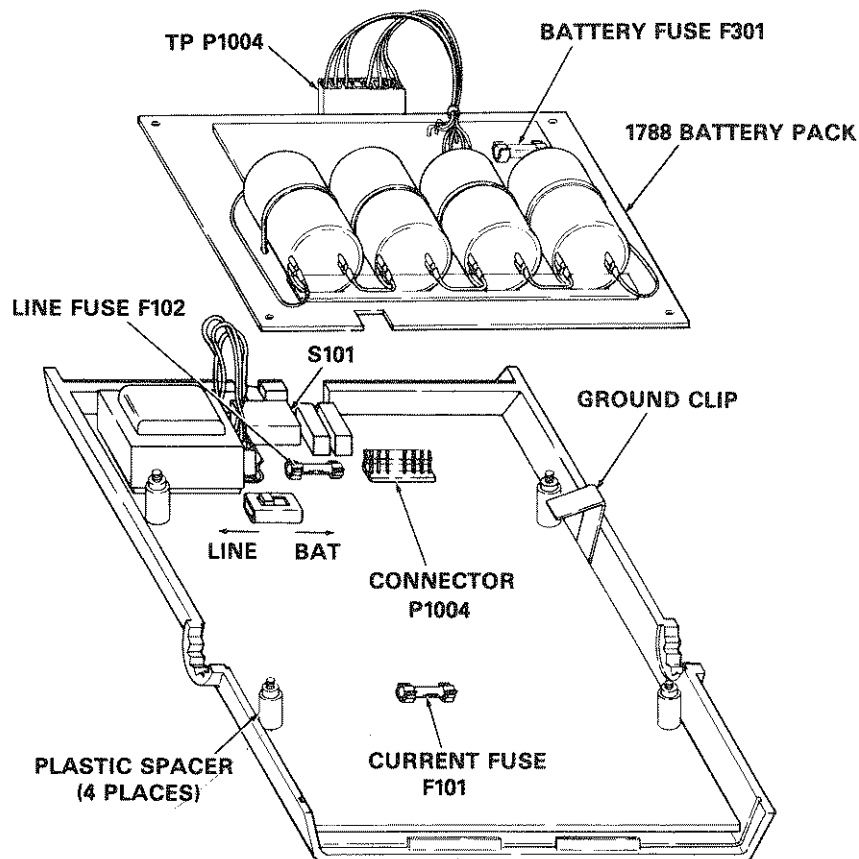

Figure 5-4. Battery Pack Installation
- Remove F301, shown in Figure 5-4, and replace it with a 2A, 250V, 3AG fuse (Keithley part number FU-13).
5. Set the BAT/LINE switch to the BAT position shown in Figure 5-4. Note that the battery pack will not operate properly if this switch is not in the BAT position.